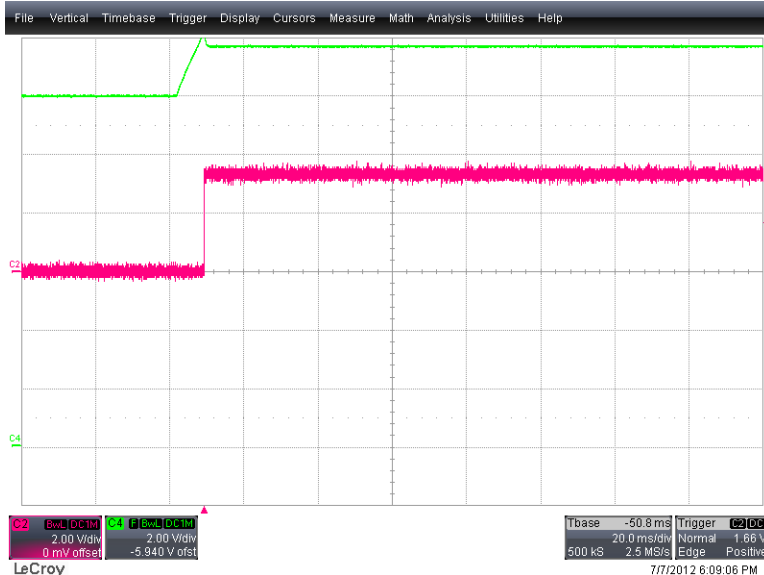

Figure 51 - OrFET disabled when VS3 is greater than OVP limit
- A. **Load OVP action on OrFET:** Figure 51 shows the OrFET being disabled when a bus voltage is greater than the local voltage. A DC power supply can be connected to the output terminals of the board (J4, J5). Care should be taken to ensure that the output voltage is not beyond the voltage rating of the output capacitor (C7) and the absolute maximum VCC rating of the SR driver (U1). Here the load OVP flag is used to protect the PSU by disabling the OrFET. The body diode of the MOSFET (Q1) is reversed biased during this condition.